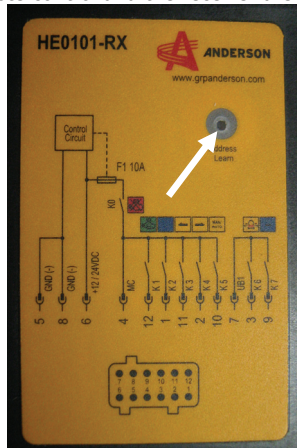

Figure 12.9 Address Learn button
- Press the button Address Learn (Figure 12.9) on the receiver.